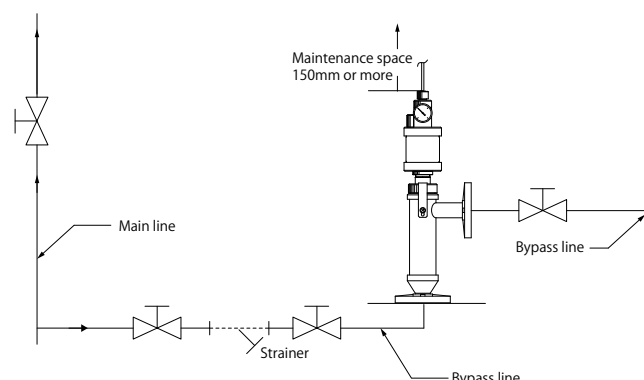

Fig.3
- In cases where there is a lot of floating matter in the measured liquid, attach a strainer to the inflow side of the holder. See [Fig.3]